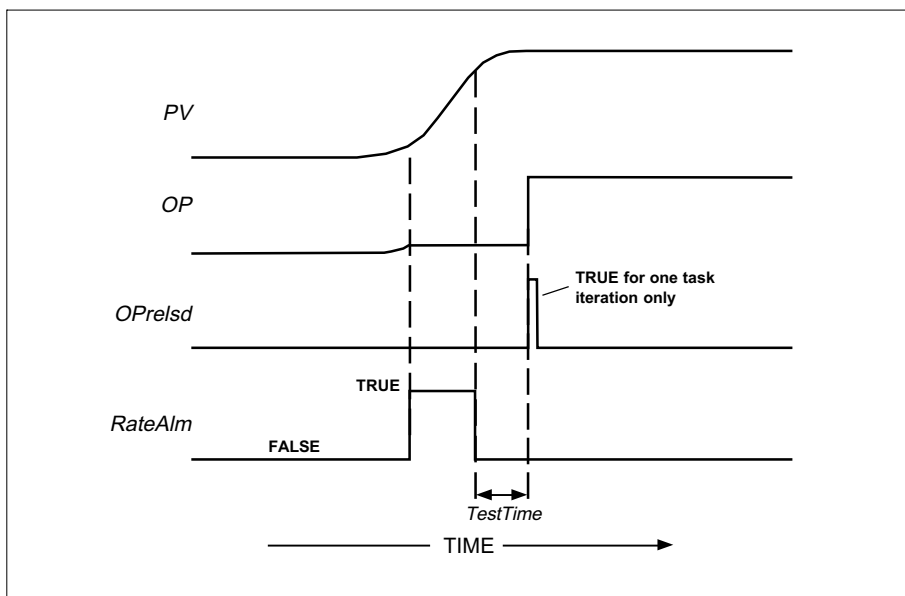
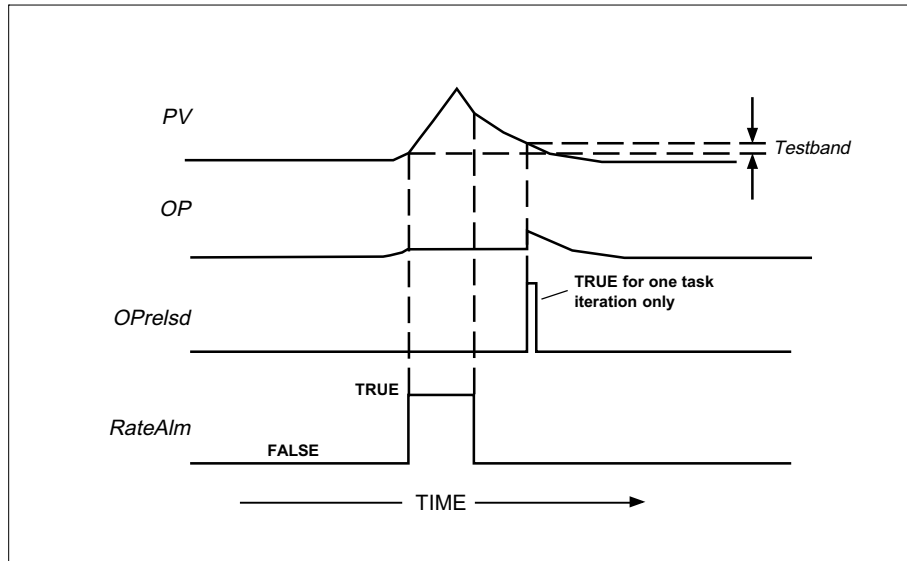

Figure 113 Block parameter actions, OP release after TestTime
Figure 114 Block parameter actions, OP release controlled by TestBand
The release of *OP* after a rate alarm clears is not immediate but occurs after a specified time period (*TestTime*), or when *PV* returns to within a specified value (*TestBand*) of *OP*, whichever happens sooner. Status bit *OPrelsd* flags *OP*'s release by setting TRUE for one task iteration only. *Figure 113* and *Figure 114* illustrate how *OP*, *OPrelsd*, and the rate alarm bit *RateAlm* behave as *dPV/dt* goes in and out of limits.
TestBand. The absolute difference between *PV* and *OP* when *OP* is released from the ‘held’ state, if this occurs before *TestTime* has expired after *RateAlm* has reset FALSE. See Figure 114.
- **OPrelsd.** This bit becomes TRUE for one task iteration, then resets to FALSE, when *OP* is released from the held state after a rate alarm has occurred. See *Figure 113* and *Figure 114* for illustrations of the action of the *OPrelsd* flag.